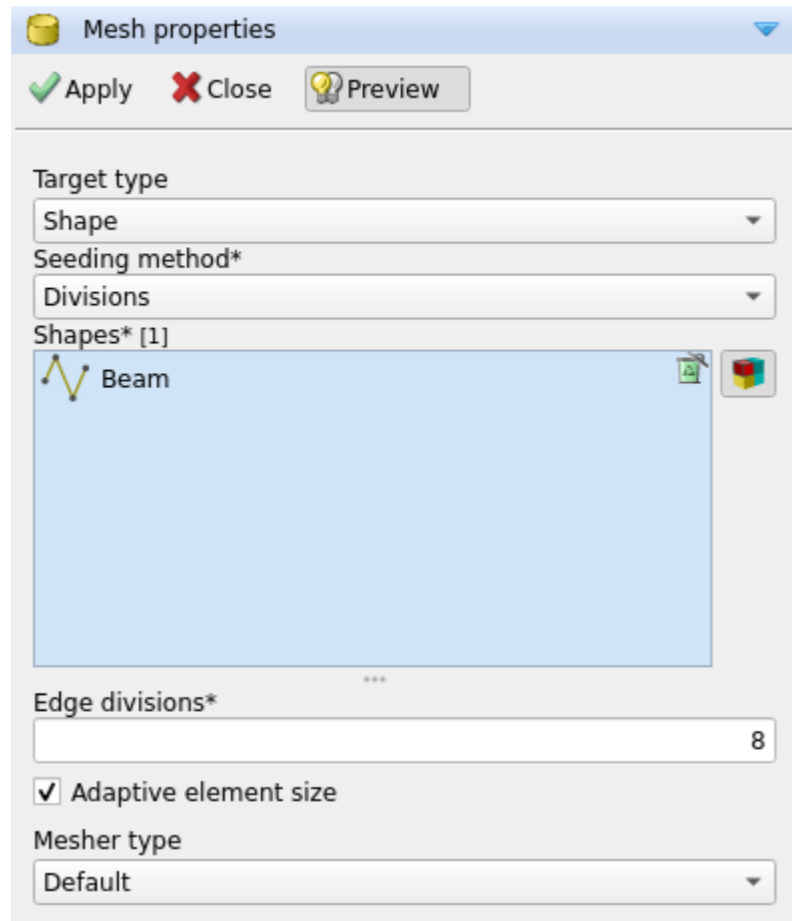

Figure 16: Mesh properties
**Main menu** → Geometry → Mesh → Mesh properties  [Fig. 16]